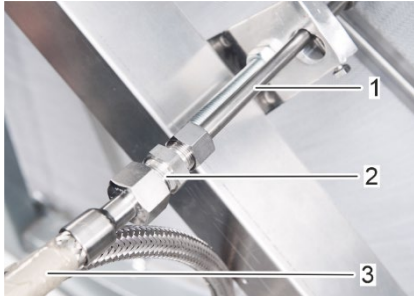

Fig. 57: Connect the water supply
1. Connect the high-pressure water nozzle (Fig. 57/1) using a suitable connection technique with an electromagnetic hydraulic valve and with the on-site high-pressure water supply (Fig. 57/3).
Klingenburg recommends using a Parker Ermeto hydraulic screw connection (Fig. 57/2). The electromagnetic hydraulic valve is not included in the scope of delivery.